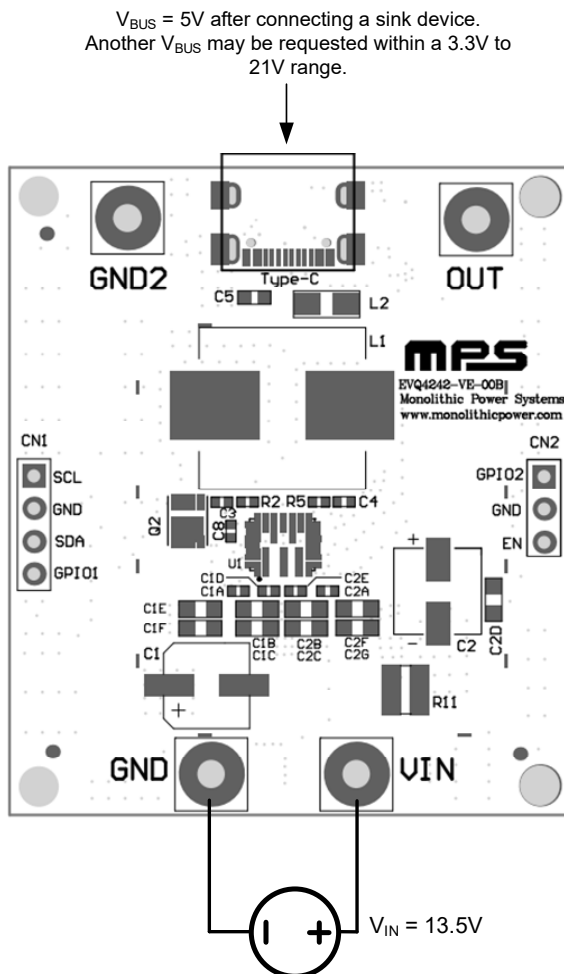

Figure 1: Measurement Equipment Set-Up
11. Figure 1 shows the measurement equipment set-up.